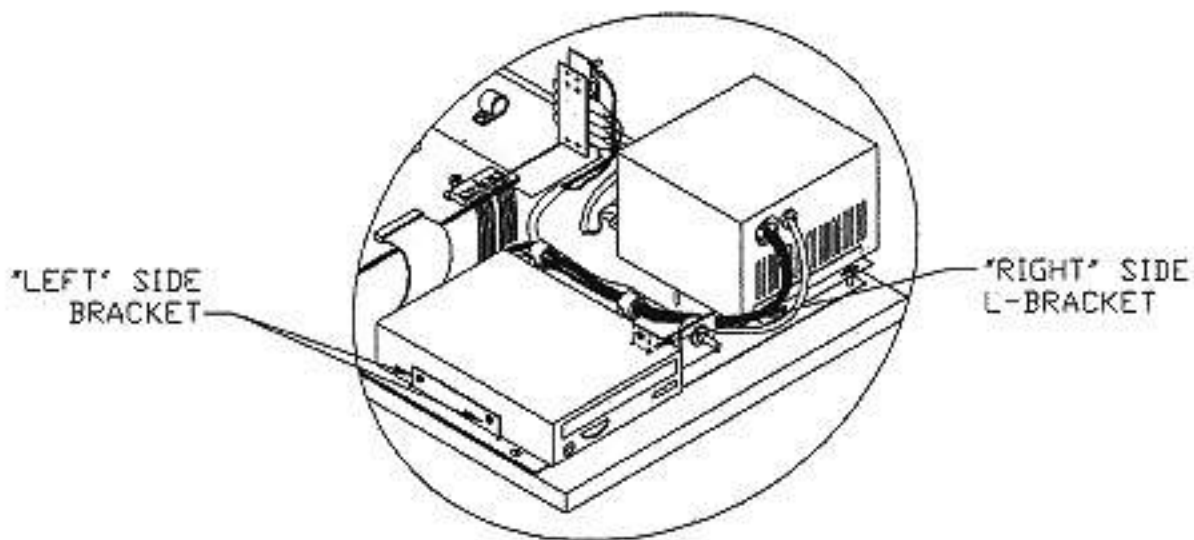

FIGURE 7 - FRONT-ACCESS UPRIGHT/CABARET
4. Locate the L-bracket on the right side of the CD player and remove the screw securing the CD player to the bracket. See Figure 7.
5. Remove the two screws on the left side of the CD player. See Figure 7.